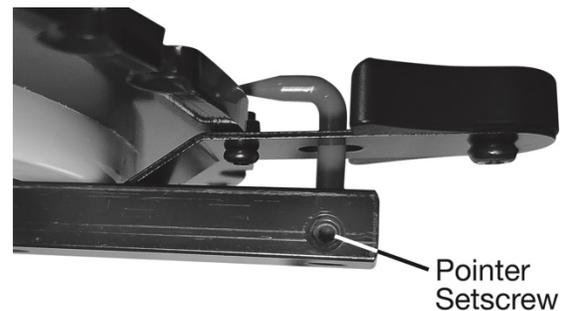

Figure 8-3
4. After squaring, if the red pointer (C) is not pointing at 0°, loosen the pointer setscrew (see Figure 8-3), rotate the pointer to 0°, and retighten the pointer setscrew.